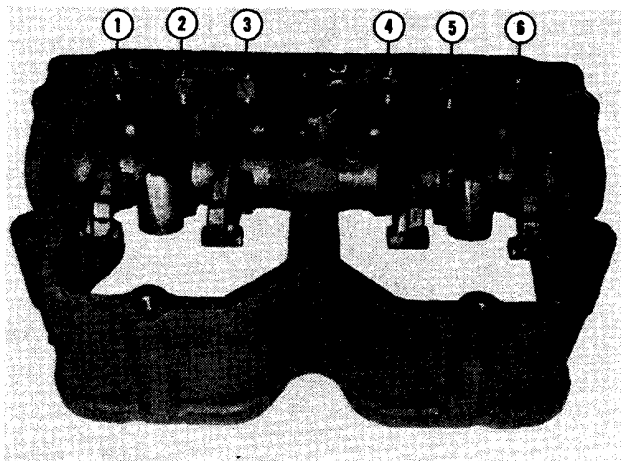

Fig. 3-7, (N10326). Rocker lever assembly
3. Start shaft into housing and install levers as shaft is pushed through. See Fig. 3-7, for correct position of levers.
- a. Install exhaust (1), injector (2) and intake (3) levers.
- b. Install intake (4), injector (5), and exhaust (6) levers.